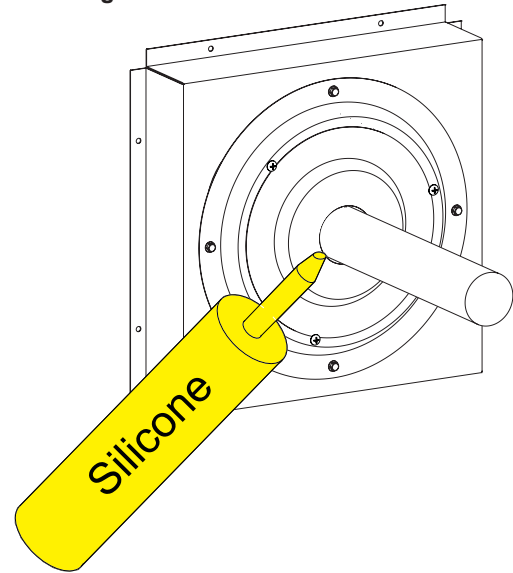

Figure 4
5. Apply silicone around the flue pipe where it exits the adapter plate. See the installation instructions provided with the wall furnace for proper flue pipe length outside of the adapter plate. **See Figure 4.**